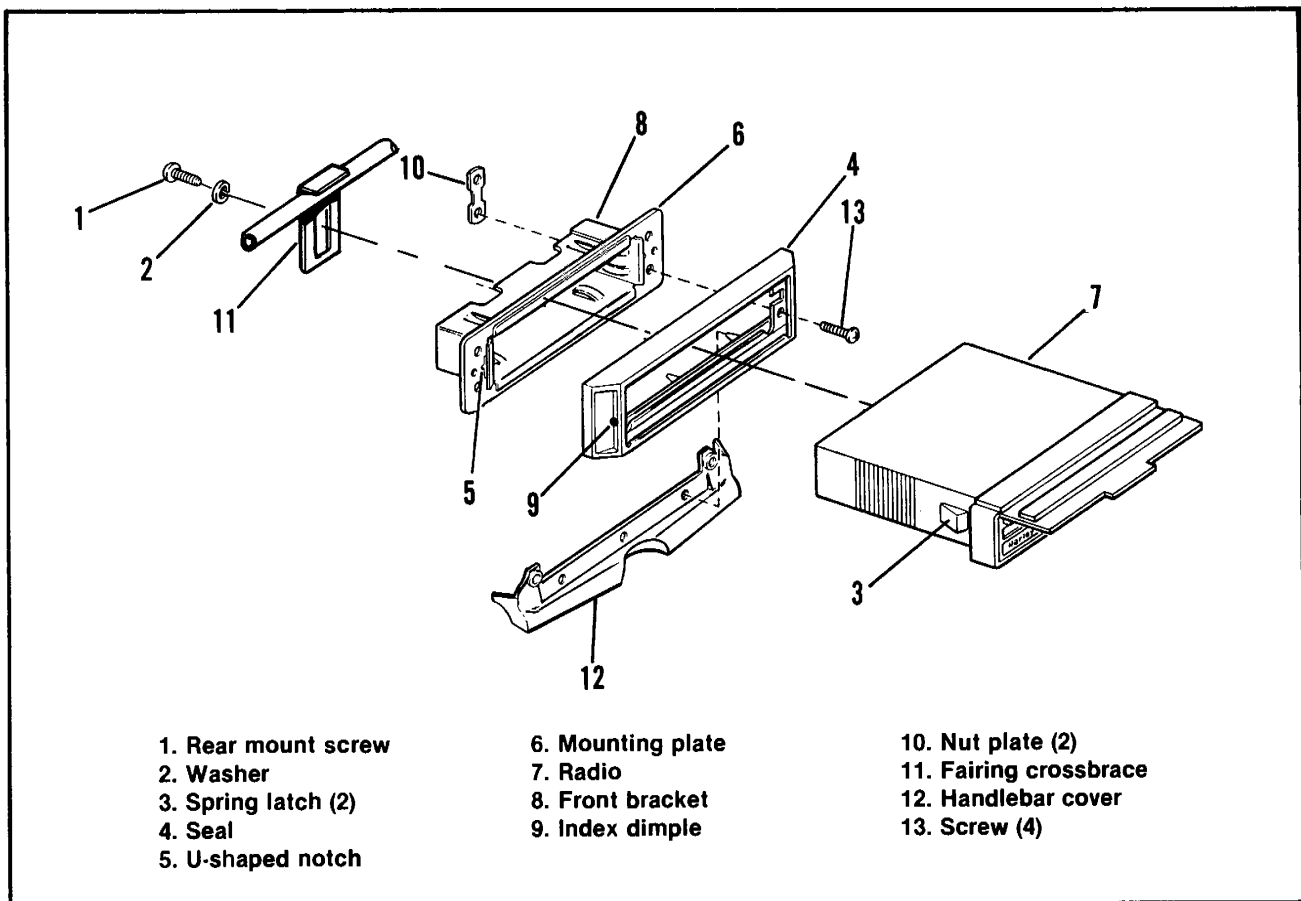

Figure 2-133. Radio Mounting — FLHTC
REMOVAL — FLHTC (Figure 2-133)
Figure 2-133 shows additional parts in a removed or exploded view as an aid to inner fairing replacement or other associated repairs. Only remove the parts that are specified in this procedure.
1. See Figure 2-133. Carefully insert radio in front bracket (8). Make sure wires and connectors are not pinched or damaged while inserting the radio.
2. Use a thin wooden stick to lift edge of seal (4) so seal covers radio properly.
3. Press inward on radio to engage latches (3) in mounting plate (6) and front bracket (8).
4. Reaching through headlamp opening, connect all electrical connectors and install rear mount screw (1) and washer (2), making sure that radio chassis is not being stressed. On Ultra models, cover mating surface of DIN connector halves with two layers of black electrical tape.